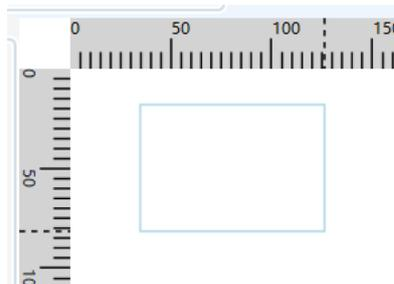

Fig. 4.3.3b Rectangle Drawing
① Left-click to enter the drawing mode, and then left-click at any position on the canvas to determine the coordinates of the upper left corner of the rectangle, as shown in Fig. 4.3.3b. Move the mouse and click again to complete the drawing of the rectangle. Move the mouse and click again to start drawing the second rectangle.